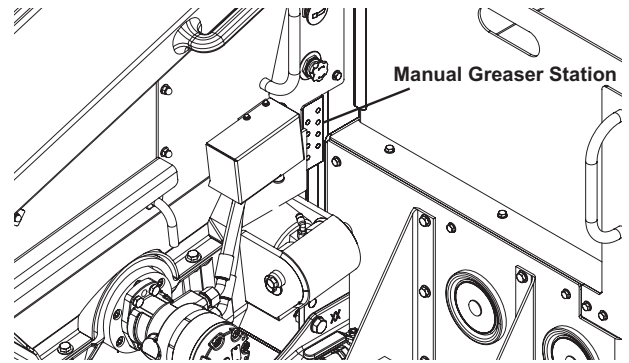

Figure 8
- Grease the rock valve lubrication points before the pour begins. Once started, grease them every couple of hours. The rock valve has eight grease zerks. The zerks are on the manual greaser station accessible from the passenger side of the unit (Figure 8).